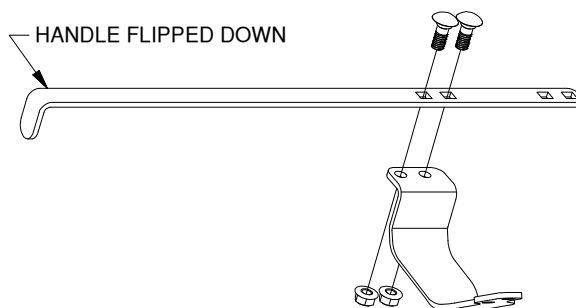

Figure D2: Latch handle assembly configurations.
2. **Assemble the handle.** Locate the latch pin handle and the latch pin handle bracket. Assemble the pieces of the handle with two 3/8" carriage bolts and 3/8" locking flange nuts, making sure that the edge of the handle is in line with the edge of the bracket, see Figure D2. Torque the nuts to 30 ft. lbs.